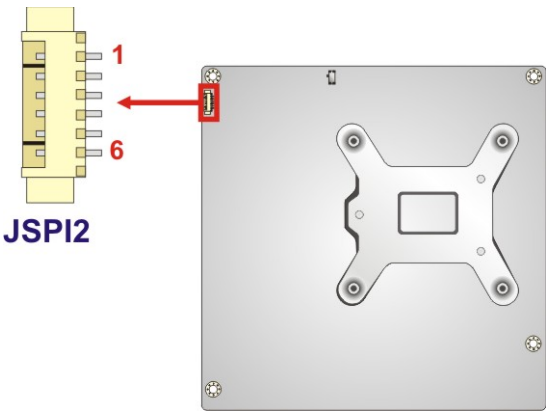

Figure 3-27: SPI EC Flash Connector Location
- CN Location: See Figure 3-27